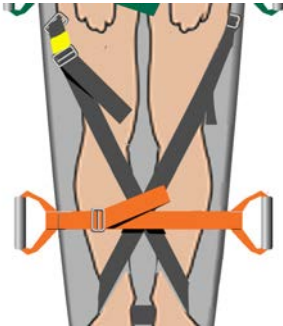

Figure 7
5. Once the figure of eight is complete, secure the final cross strap. This should be secured where it lies on top of the foot loop as shown on Figure 7.